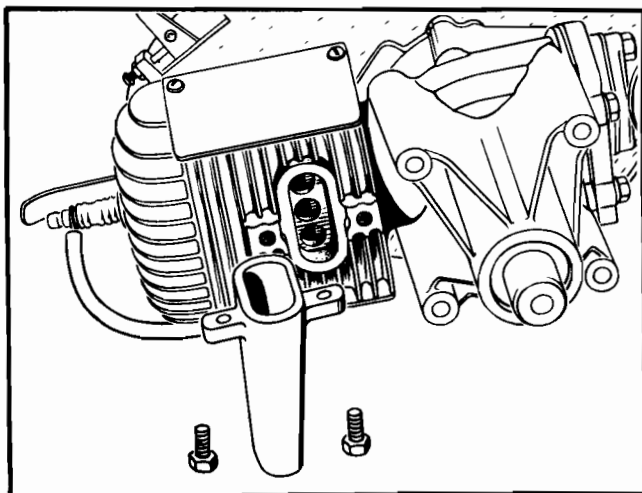

Figure No. 34—2-Cycle Exhaust Ports
- a. Remove muffler assembly from engine to expose exhaust valve ports. (See Figure No. 34.)